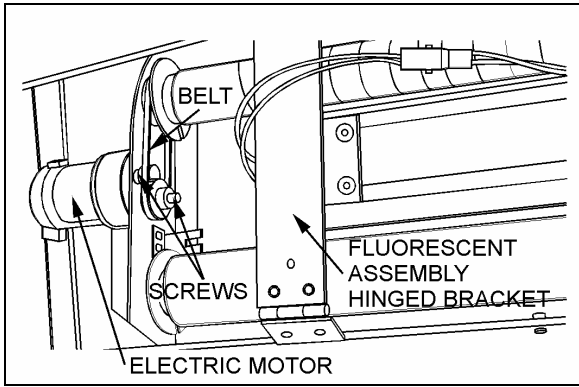

FIGURE 22: DESTINATION SIGN-ELECTRIC MOTOR 23034
3. Remove both screws retaining motor to destination sign frame (Fig. 22).